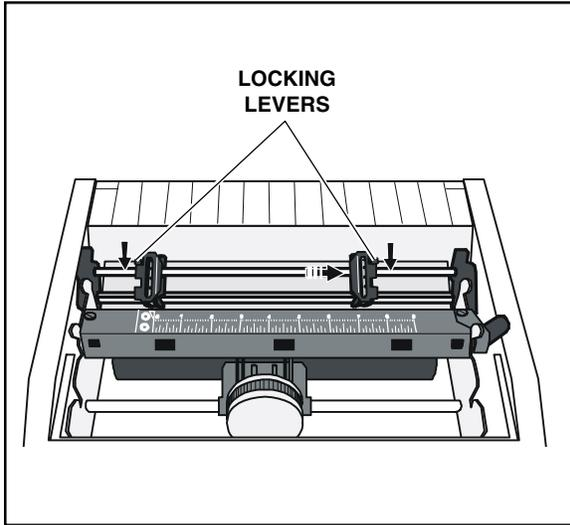

Figure 3-4. Unlocking the Tractors
4. Unlock both tractors by moving the lock-ing levers, as shown in figure 3-4.